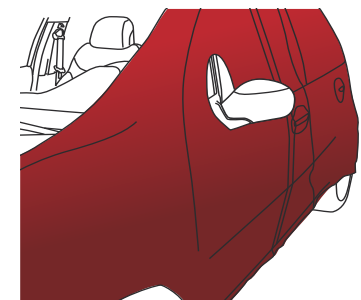

Figure 32
- › The film is now stretched over the entire surface area to be wrapped. Now you can apply the film (FIG. 32) as described in the paragraphs 4.3 to 4.5 according to the type of surface.